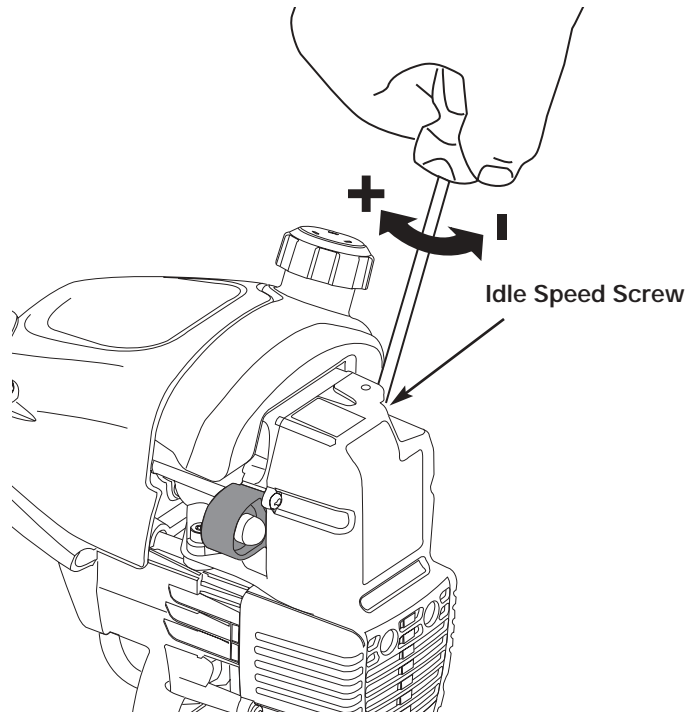

Fig. 33
The idle speed of the engine is adjustable through the air filter/muffler cover (Fig. 33).
2. Release the throttle trigger and let the engine idle. If the engine stops, insert a small phillips or flat blade screwdriver into the hole in the air filter/muffler cover (Fig. 33). Turn the idle speed screw in, **clockwise**, 1/8 of a turn at a time (as needed) until the engine idles smoothly.